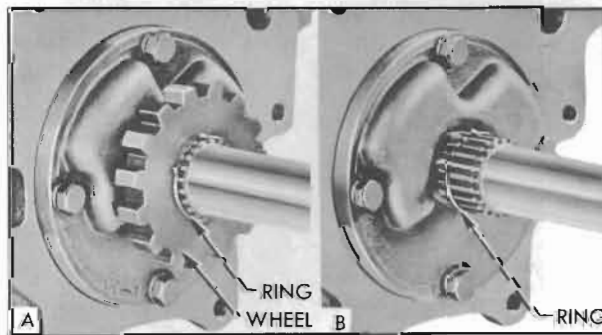

Figure 5-37—Removing Ratchet Wheel Retaining Ring
5. Using snap ring pliers, remove ratchet wheel outer retaining ring, slide wheel from output shaft, and remove inner retaining ring. See figure 5-37.